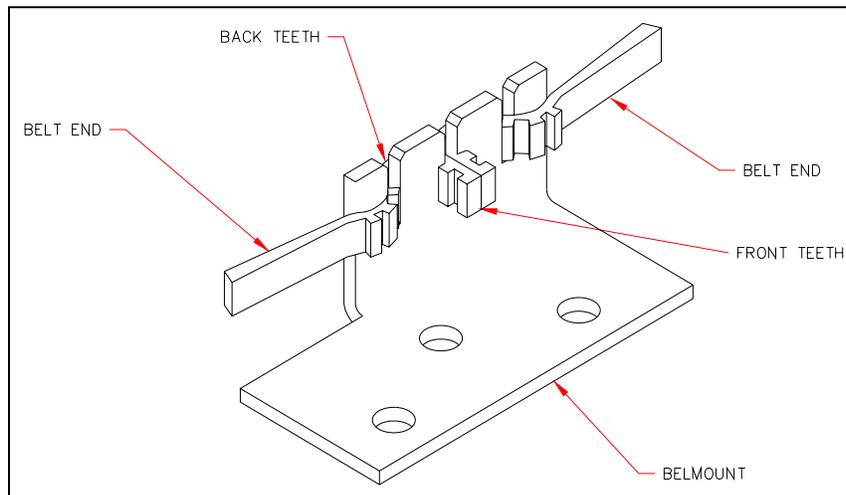

Figure 11-15 Belt Mounting
- 3 Slide the belt out of the mount (Figure 11-15) and discard the old belt.
- 4 Cut a 24.7" length of belt material. Install this belt into the belt mount so that there are two front teeth exposed and four back teeth as shown in Figure 11-15.